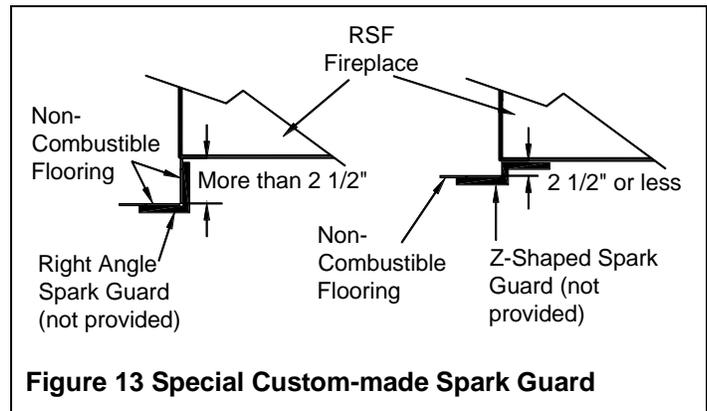

Figure 13 Special Custom-made Spark Guard
If you are preparing a raised installation, you will need a custom made spark guard, either a "Z" shaped spark guard or a right angle spark guard (see Figure 13). The Z-shaped spark guard must be used if the height between the bottom of the fireplace and the top of the non-combustible flooring of the hearth extension is less than or equal to 2½". The height of the Z-shaped spark guard must equal the distance between the floor and the base of the unit and go under the hearth extension and the fireplace by at least 2½". If the unit is installed higher than 2½" from the top of the flooring, a right-angle spark guard is necessary. The sides of the right-angle spark guard should be at least 2½" x 2½" and must be covered with non-combustible material. Any custom-made spark guard must have the minimum width specified in Table 1 (I), and be installed centered on the door opening.